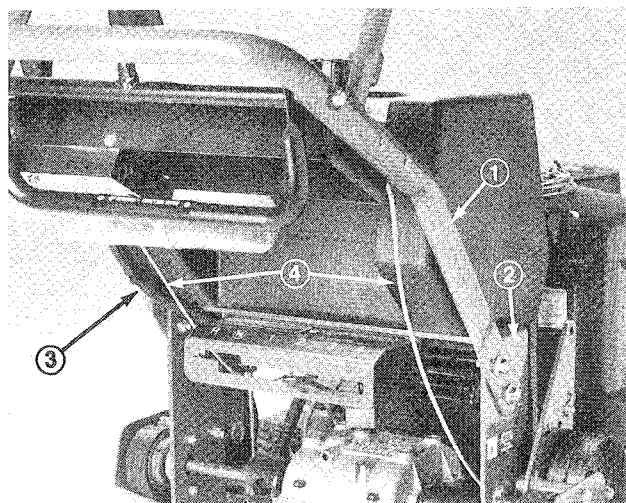

Figure 3
1. Align upper handle mounting holes with desired mounting holes in frame (upper or lower set of holes) and secure each side with (two) 3/8 - 16 x 1" lg. flange capscrews and flange nuts. Tighten capscrews to 23-27 ft.-lbs. Route cables and wire harness inside of frame (Fig. 3).